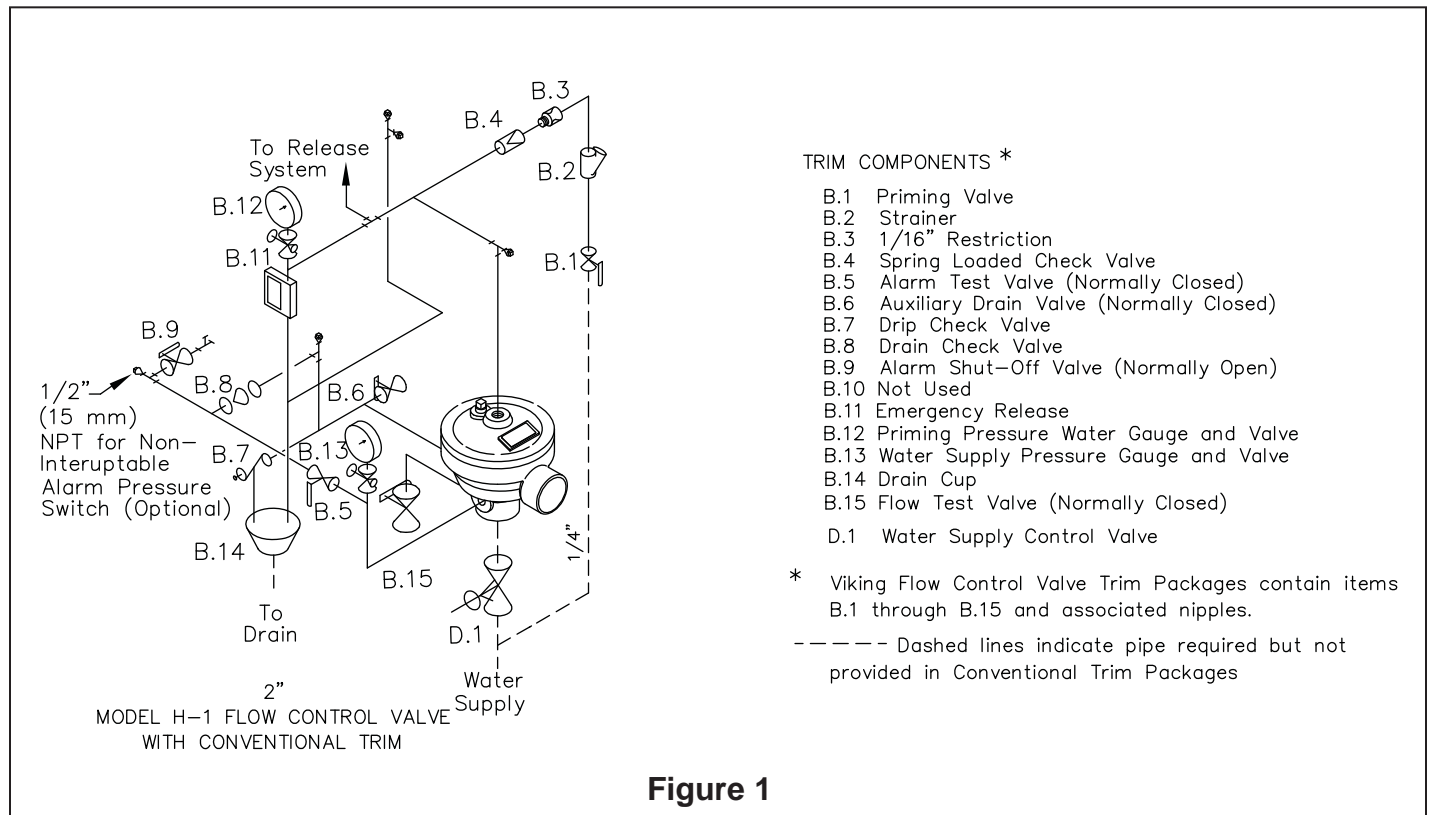

Figure 1
NOTE: FOR POSITIONS OTHER THAN VERTICAL (SHOWN IN FIG. 1) MINOR MODIFICATION OF TRIM MAY BE REQUIRED TO FACILITATE DRAINAGE FROM OUTLET CHAMBER OF THE FLOW CONTROL VALVE (CONSULT MANUFACTURER).
B. Placing the Valve in Service (Refer to Figure 1.)
C. Automatic Resetting (Refer to Figure 1 for identification of trim components)
6. INSPECTIONS AND TESTS AND MAINTENANCE (Refer to Figure 1.)